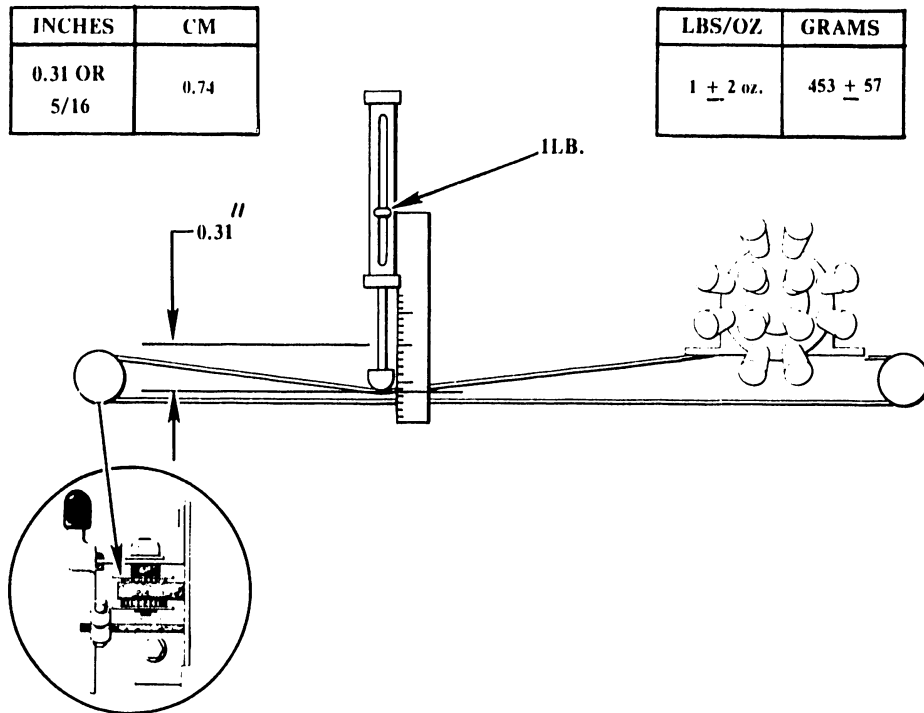

FIGURE 6-11 CARRIAGE DRIVE BELT ADJUSTMENT
- 2) Using a spring gauge and scale, deflect the middle of the belt 0.31" or 5/16" (0.74 cm). The gauge should read 1 lb ± 2 oz (453 grams ± 57 grams). (See Figure 6-11.)
Loosen the 7/16" nut holding the carriage drive-belt pulley on the left side of the printer (see Figure 6-11). Move the pulley in the desired direction and tighten the pulley nut.